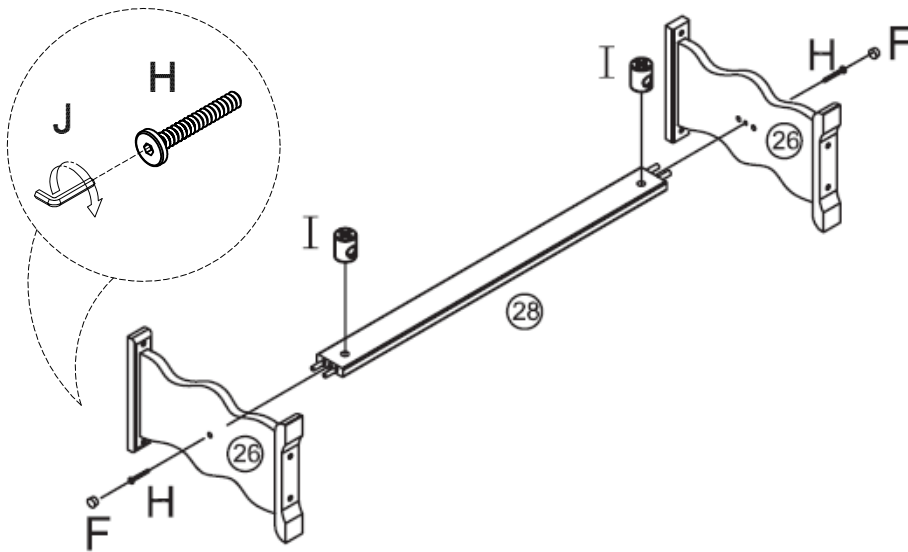

Figure 3
- With assistance, attach Crossbar (28) to fit between the two Legs (26) - completed in STEP 2 - via wood dowels. Ensure that the legs mirror/match each other. Refer to Figure 3.
- Insert Barrel Nut (I) into the designated hole on (28). Refer to Page 3 for Instructions on Installing Barrel Nut.
- Insert Screw (H) through each Leg to screw into the Barrel Nut on Crossbar. Do not tighten (H) until both screws are screwed into the Barrel Nuts. Do not over-tighten the screws.
- Use Wood Hole Cover (F) to conceal screw hole on each leg.